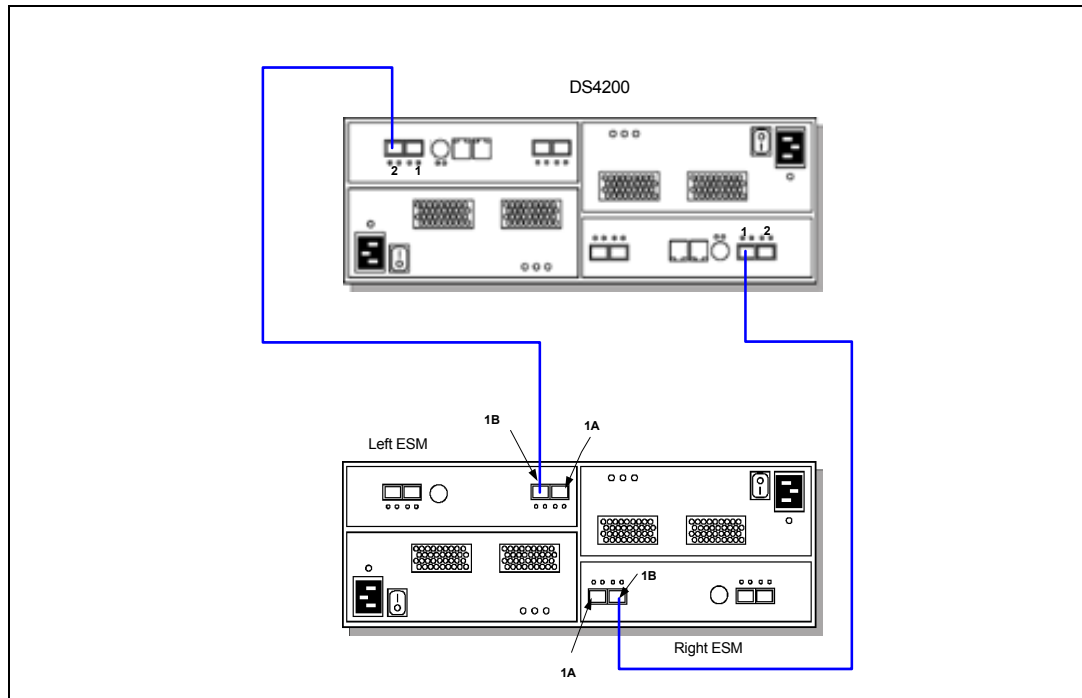
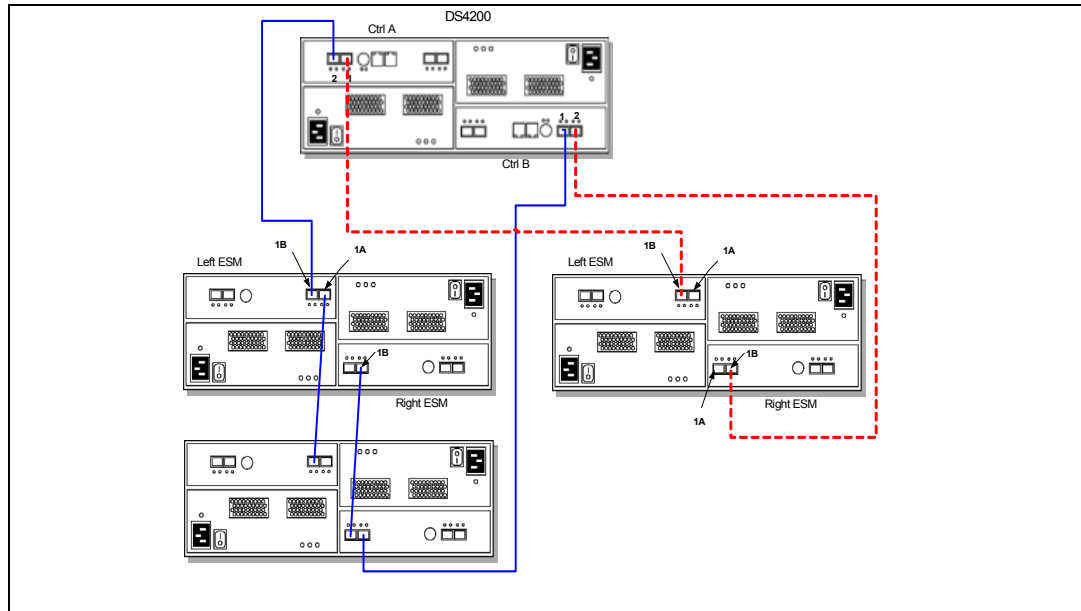
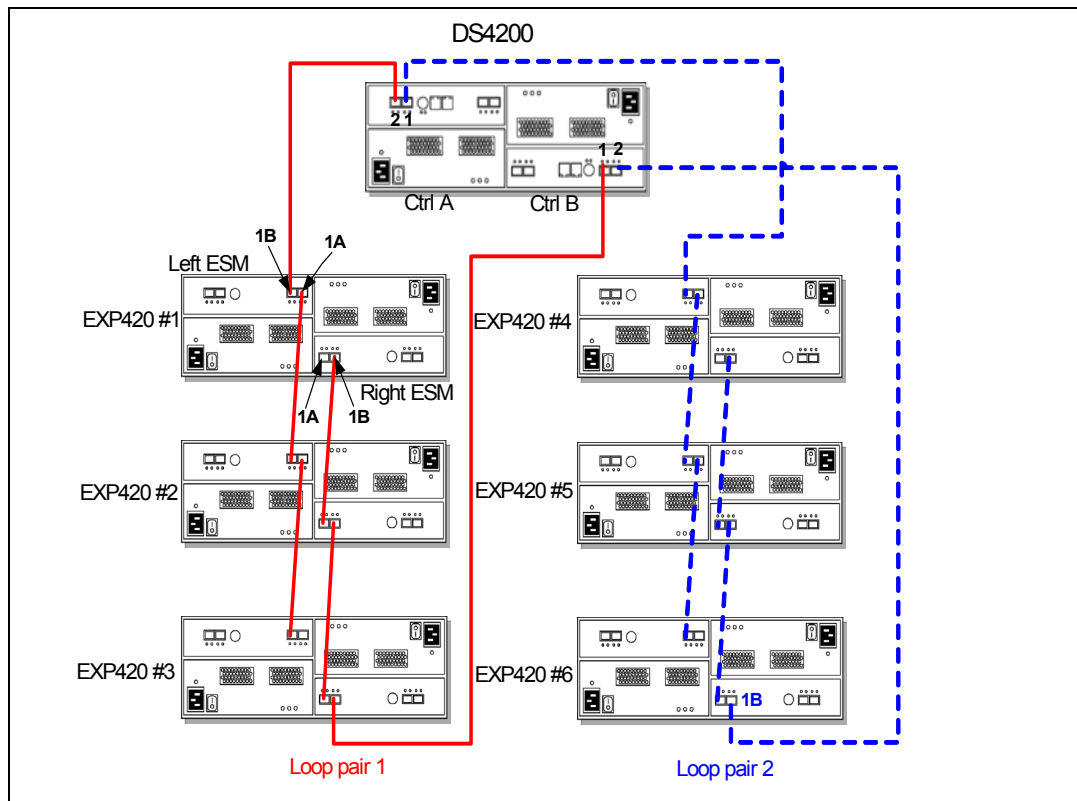

Figure 3-16 DS4200 drive cabling with one EXP420 enclosure
Figure 3-18 DS4200 drive cabling with three EXP420 enclosures
Figure 3-19 DS4200 drive cabling with six enclosures
- If you attach only one enclosure, make sure that you have one connection to each of the controllers, thus using one of the two ports on each controller, as shown in Figure 3-16.
- Beyond two enclosures (up to a maximum of six, just make sure that you equally distribute the enclosures among the redundant loop pairs (see Figure 3-18 and Figure 3-19 on page 85).
When six enclosures are required, the same method is employed again, maintaining loop redundancy and using both controllers. Refer to Figure 3-19.
In the example Figure 3-19, the DS4200 is cabled using all two loop pairs, assuming that there are six total expansion enclosures evenly spread out across the loop pairs (three each).
The drive-side cabling for the DS4700 depends on how many expansion units (usually EXP810) you need to attach (refer to the examples given for the DS4200 and EXP420 in Figure 3-16 on page 84 through Figure 3-18 on page 85).